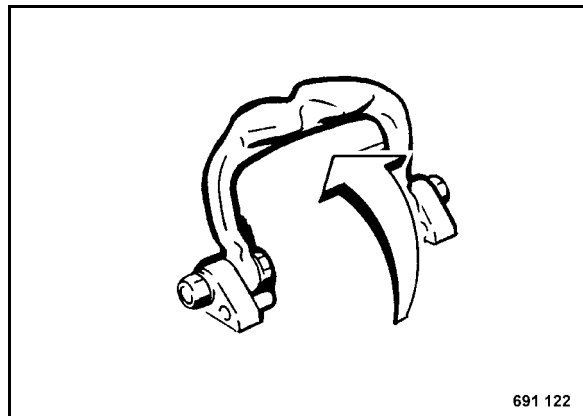

Fig. 36
- Fold the lifting hook (Fig. 36) up.